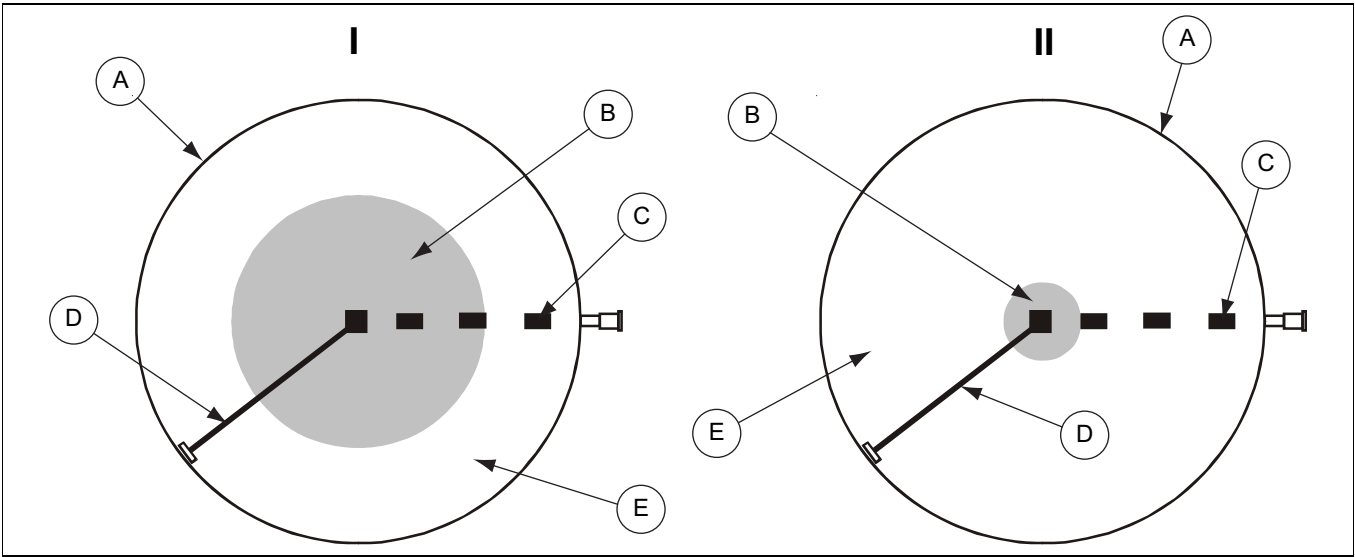

Figure 5H Top View of Bin
- 2. Clean (scoop and sweep by hand) the outer area of the floor into a circular pile towards the center of the bin. (See Figure 5H (I).)
- 6. Scoop and sweep by hand the remaining floor area to the center of the bin. (See Figure 5H (II).)